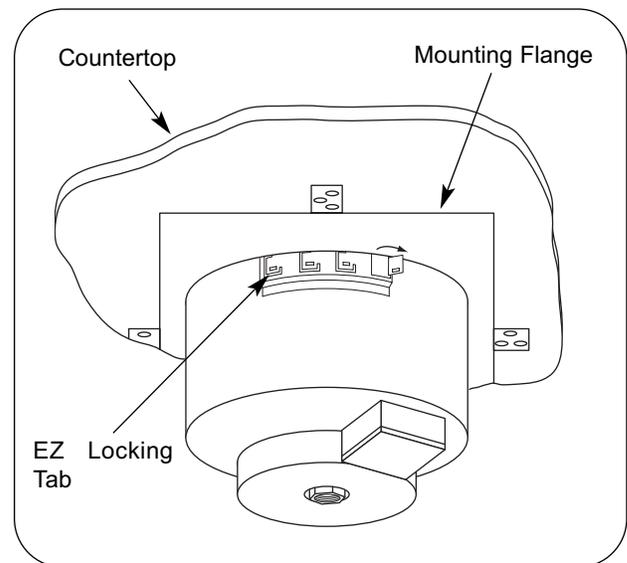

Figure 8. EZ Locking Tabs
8. Use a screwdriver to rotate the EZ locking mounting system on the Built-In Heated Well outward, to secure the unit from the underside of the mounting flange. Twist as many tabs as needed to secure unit to mounting flange. See Figure 8.